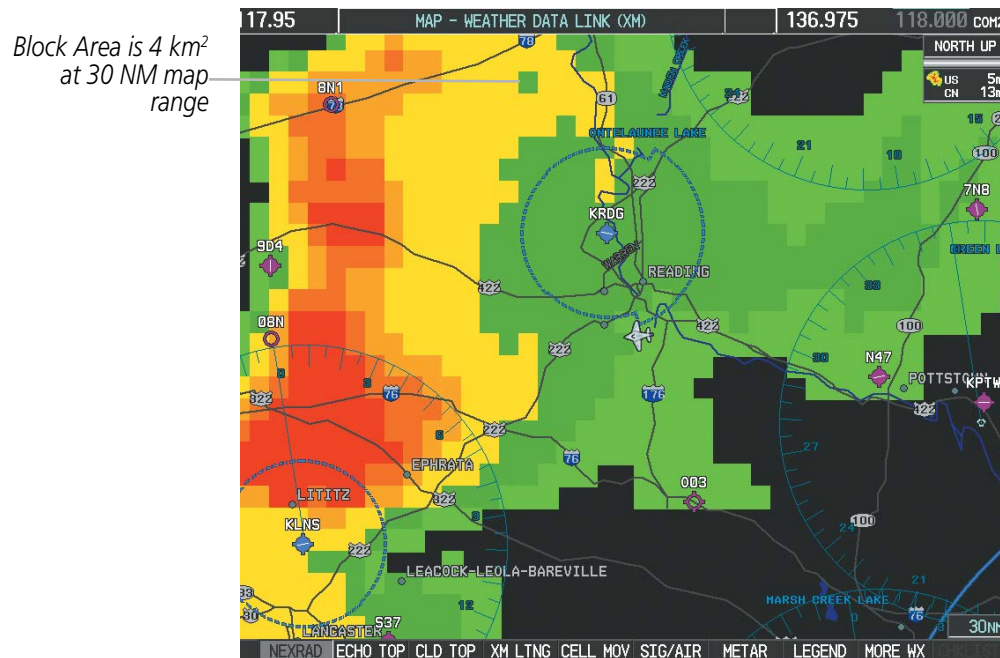

Figure 6-12 NEXRAD Weather Product with 30 NM Map Range
- When zoomed in to a range of 30 nm, each square block on the display represents an area of four square kilometers. The intensity level reflected by each square represents the *highest* level of NEXRAD data sampled within the area (Figure 6-12).